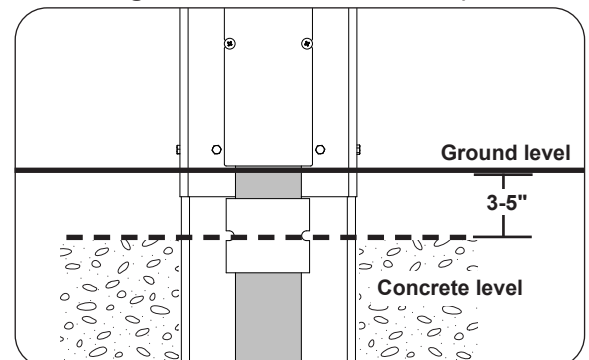

Fig. 28-4 In-ground post orientation
5. Pour the concrete mixture into the hole to approximately 3-5" below the ground level. See Fig. 28-4.